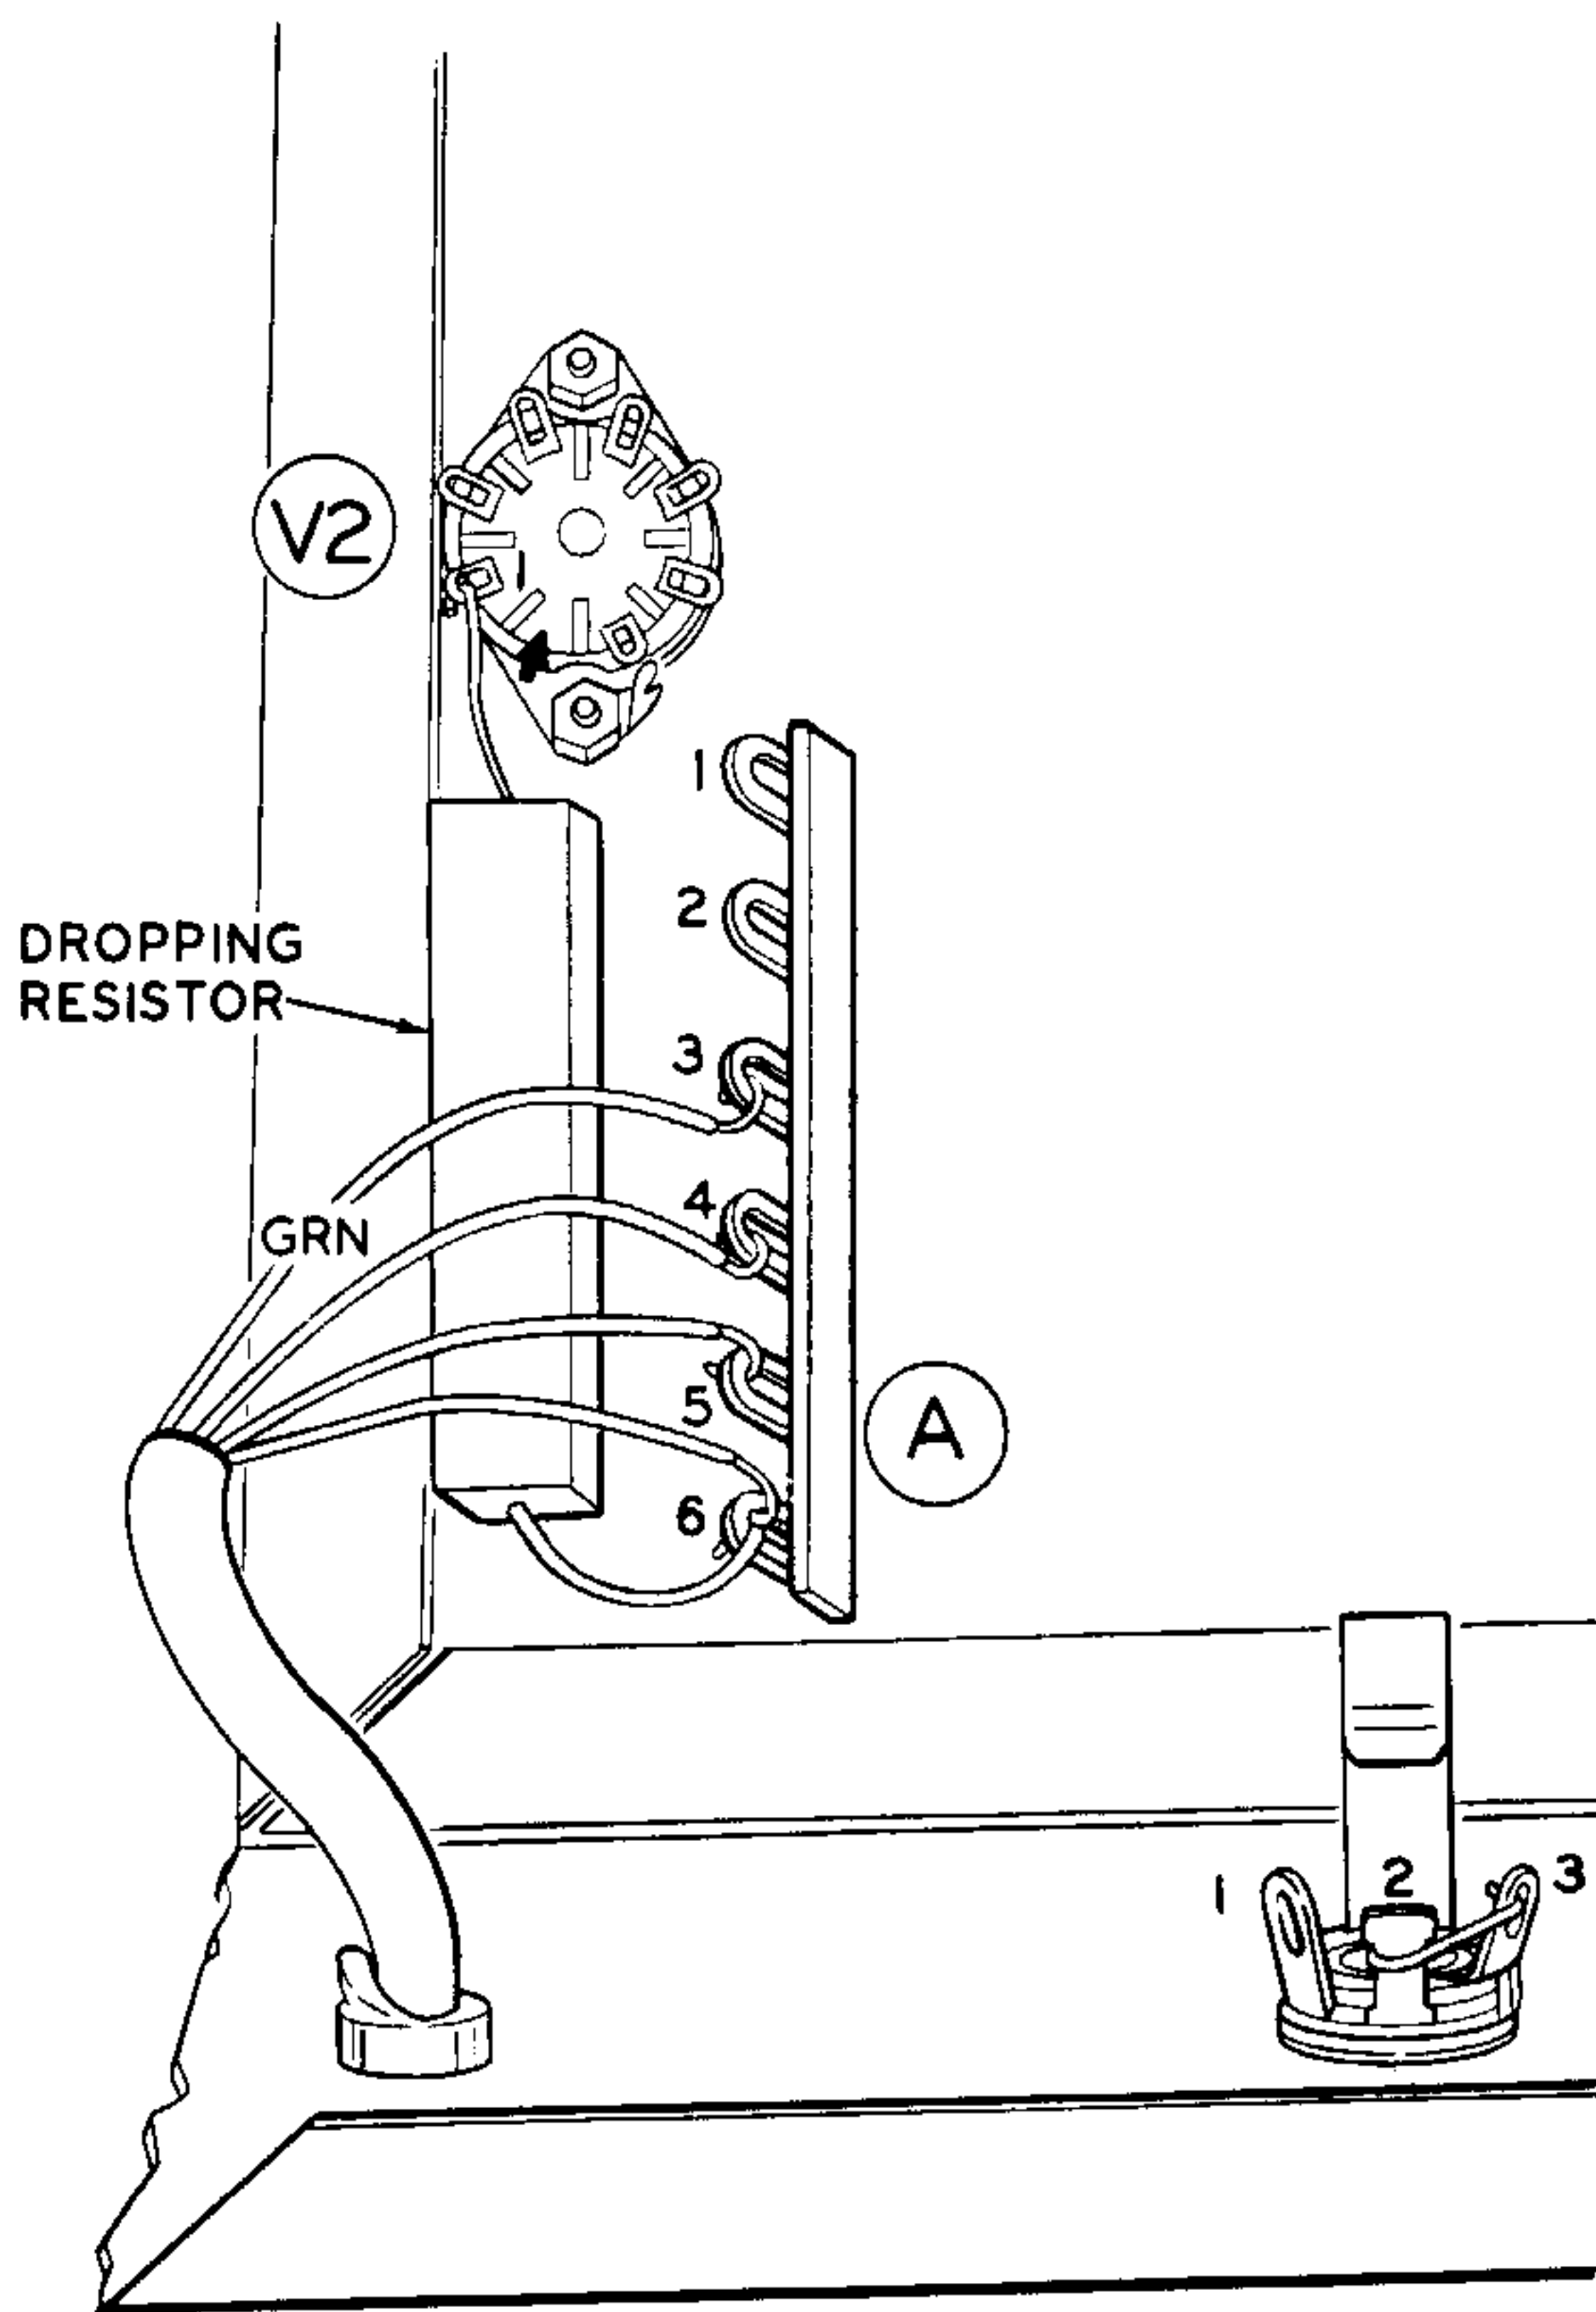
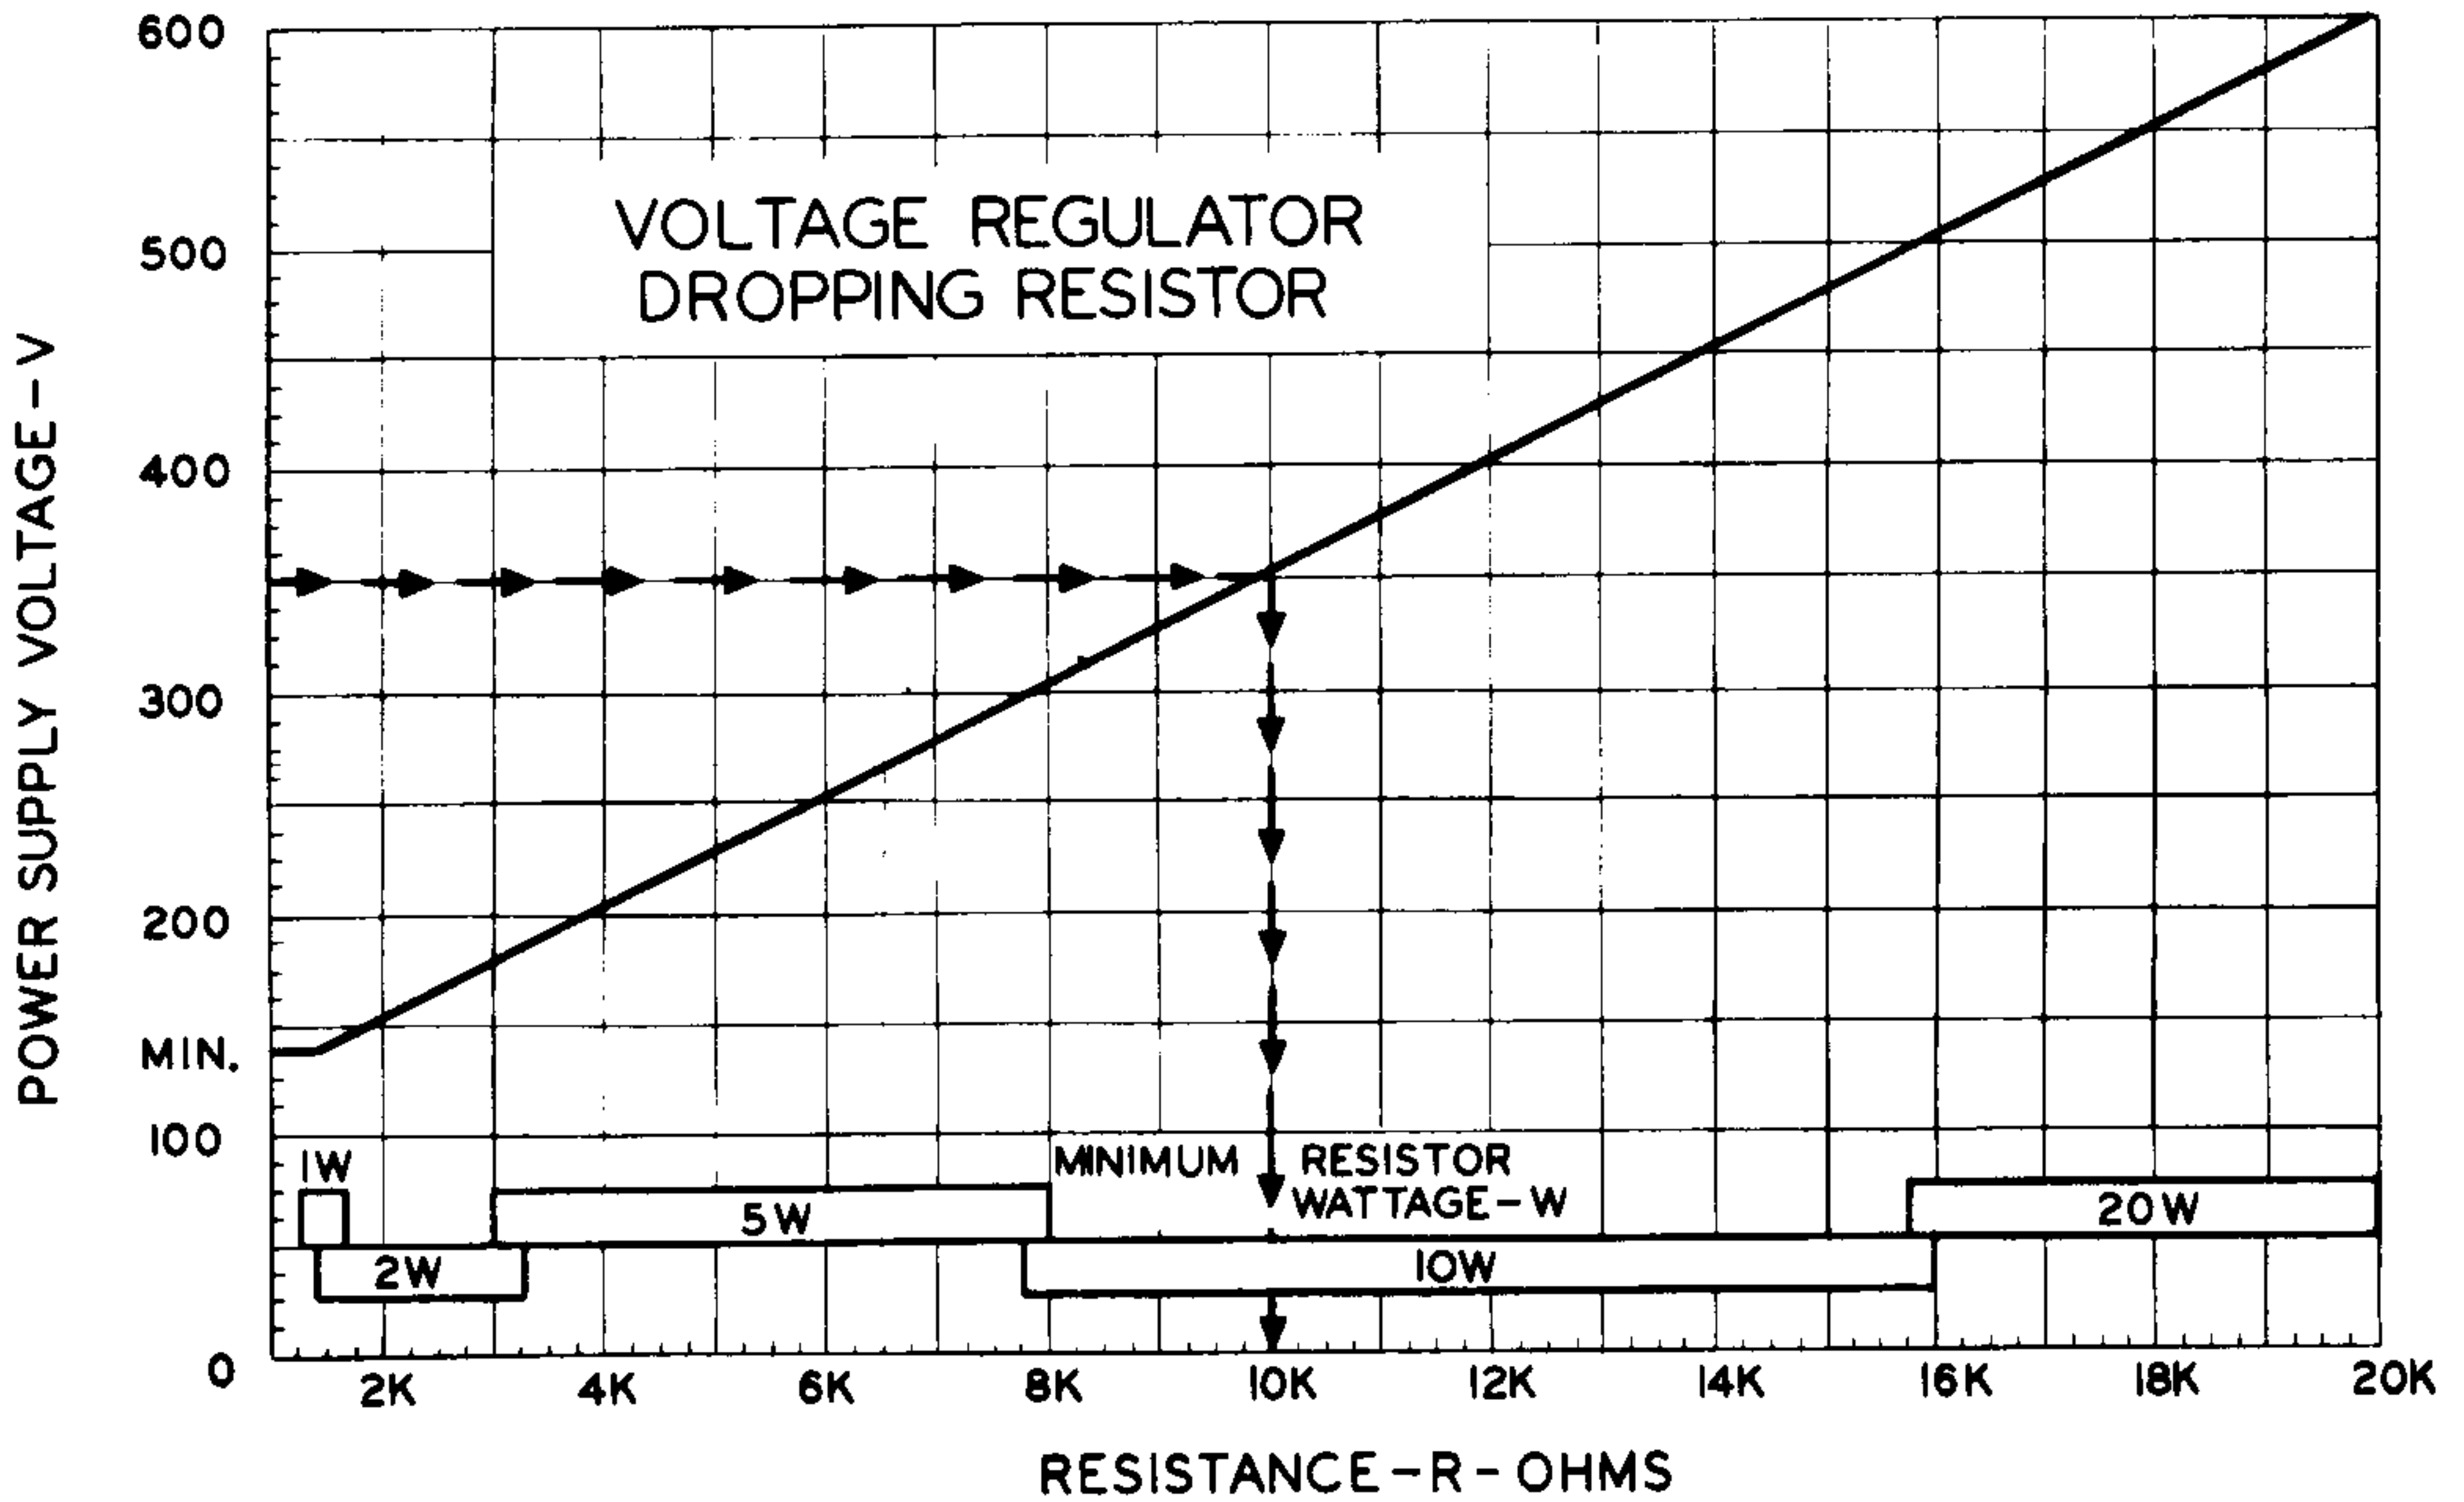
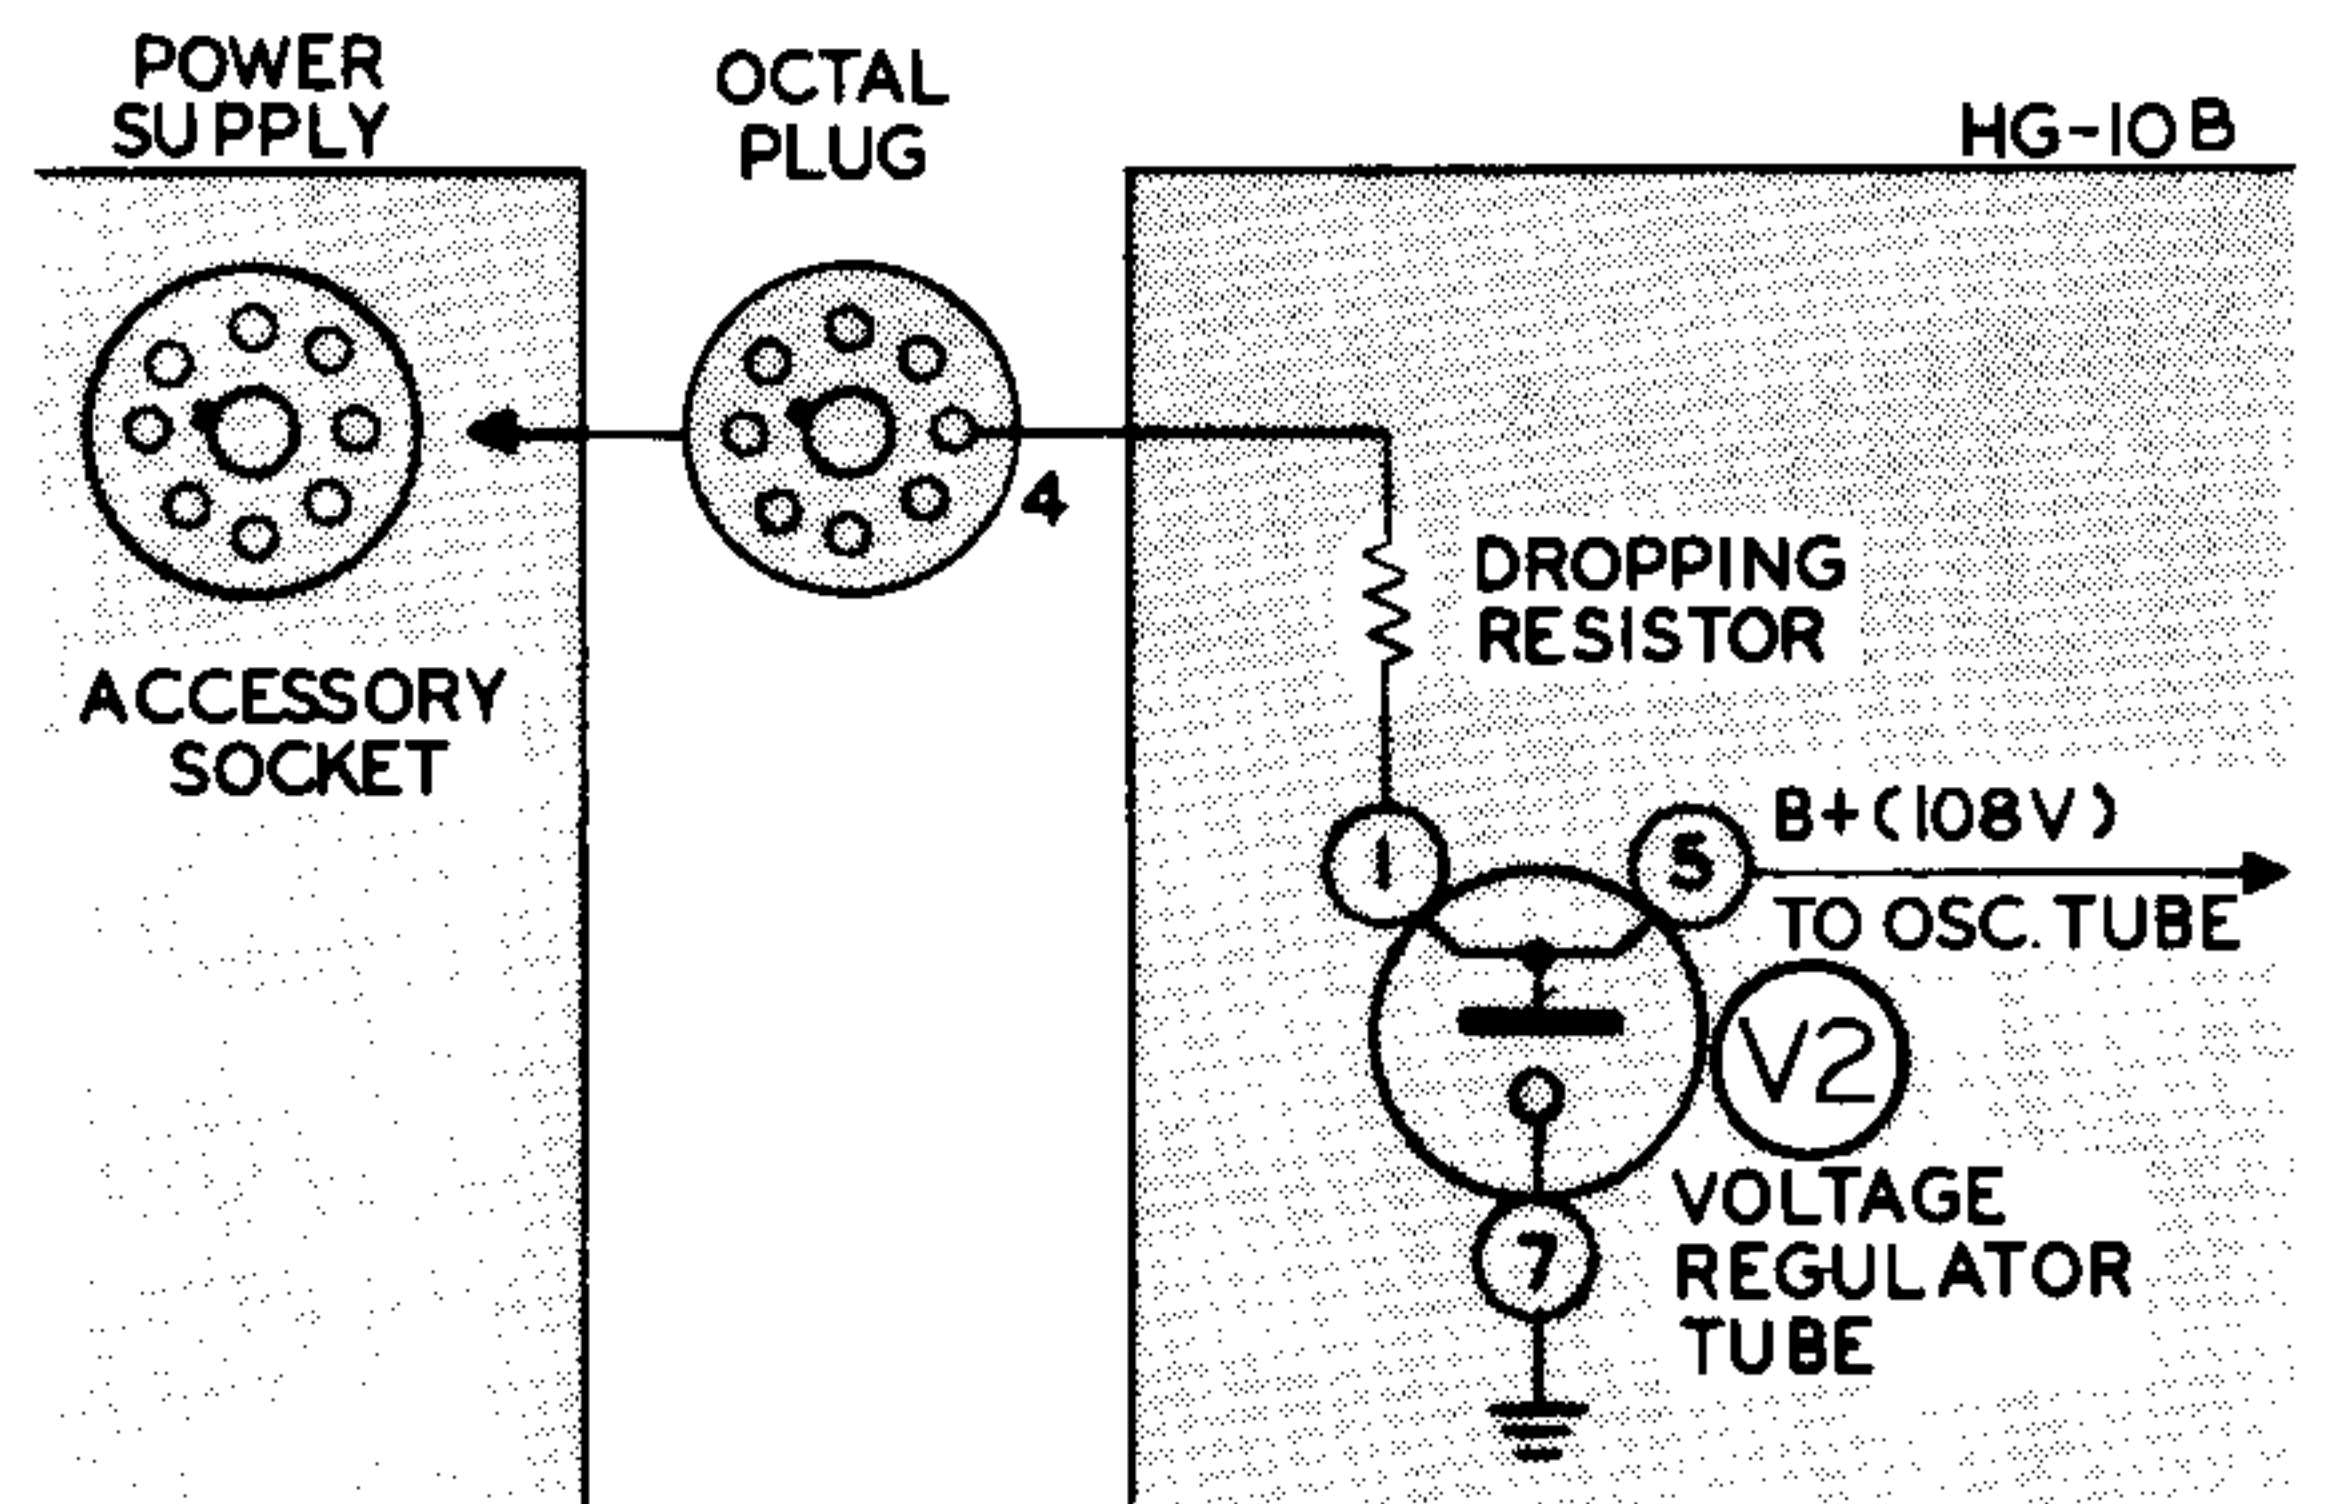

Figure 1
Figure 2
Figure 3
Voltage for the plates and screen grid of tube V1 is applied through series dropping resistor R11 to voltage regulator (VR) tube V2. The characteristics of this tube are such that the current through it will vary to maintain a constant voltage drop across the tube. The DC voltage at the plate of the VR tube, therefore, remains constant, regardless of fluctuations in the applied B+ voltage. Regulated DC voltage from V2 is applied as B+ to V1A and V1B. The use of regulated B+ voltage is essential to the stable operation of oscillator stage V1A. Resistor R11 must be changed in value to compensate for different values of applied B+ voltage. This change is covered under Installation, with Figure 2 to obtain correct values.
- () Disconnect the green wire of the power cable from lug 2 of terminal strip A, then reconnect this wire to lug 3 of terminal strip A. See Figure 1.
- () Clip out the bare wire connected between lugs 2 and 3 of the KEY jack. See Figure 1.
- () Referring to Figure 1, disconnect the green wire of the power cable from lug 2 of terminal strip A, then reconnect this wire to lug 3 of terminal strip A.
The value of the B+ voltage applied to the voltage regulator tube in the VFO is critical. For this reason, the value of the Dropping Resistor in series with the VR tube must be chosen to provide the correct voltage. The chart in Figure 2 should be used to determine the correct resistance and wattage of the Dropping Resistor. For example: If the B+ available from the transmitter is 350 volts, draw a line from the
350 volt point on the vertical scale across to the diagonal line of the graph. Then draw a line down from the point of intersection, to the horizontal scale. The point at which this line crosses the horizontal scale indicates the resistance value and wattage for the Dropping Resistor. This example is shown by the line of arrows on Figure 2. Do not use smaller resistance or wattage values. The correct Dropping Resistor should be installed in the VFO as shown in Figure 1. The 10 KΩ, 10 watt resistor, already in the VFO, should be removed. Figure 3 shows the VR tube and Dropping Resistor circuit schematically.